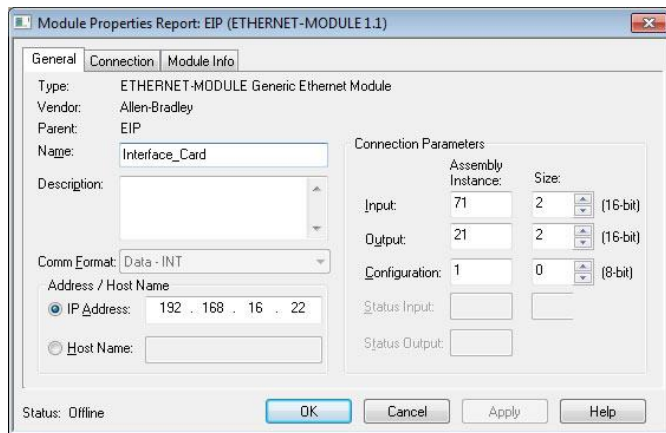

Figure 35: AC/DC Drive Profile Generic Ethernet Module Configuration
- 1) Complete all the steps in section 9.2.12. Please note that the Assembly Input Instance must be changed to 71 and the Assembly Output Instance must be changed to 21. Refer to Figure 35.